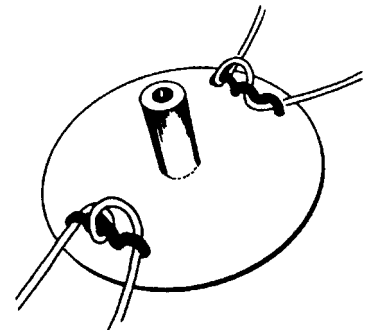

Figure 18
- You can also try the method illustrated in Figure 18, especially for the green, 155 mil cord. This not only holds the cord tight, but also helps the cords cut better in larger diameter, tough and woody growth.